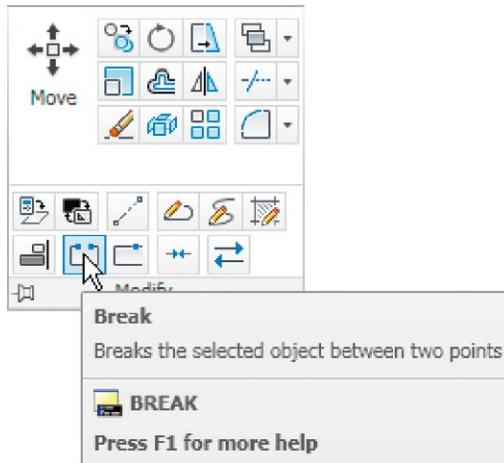

Fig. 5.35 The Break tool icon from the Home/Modify panel
2. Call **Break** – either click on its tool icon in the **Home/Modify** panel (Fig. 5.35), click **Break** in the **Modify** drop-down menu or enter **br** or **break** at the command line, which shows: